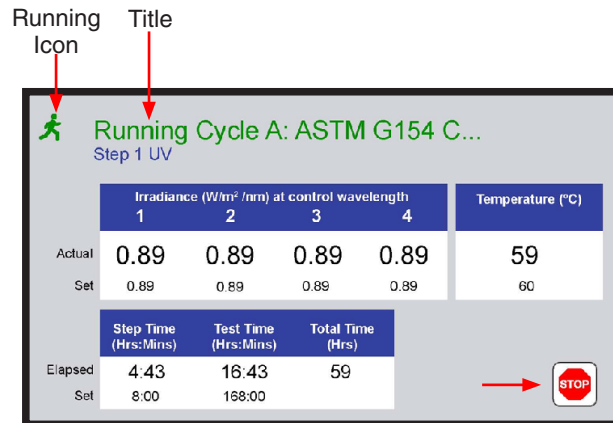
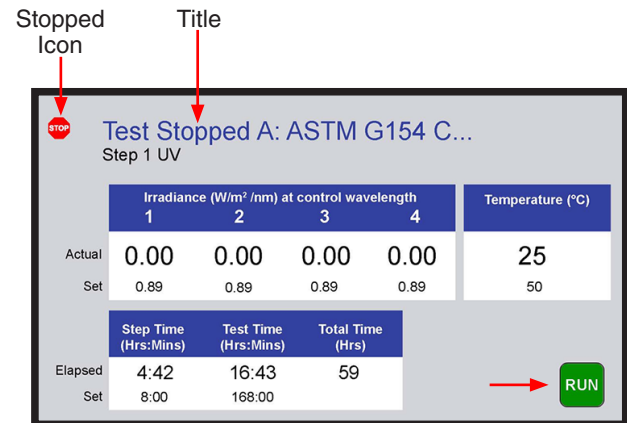

Figure 11.2b: Status icon and title when test running.
Figure 11.2c: Status icon and title when test stopped.
- A colored icon and title at the top of the screen indicate the overall status of the test: running or stopped (Figure 11.2b, Figure 11.2c).